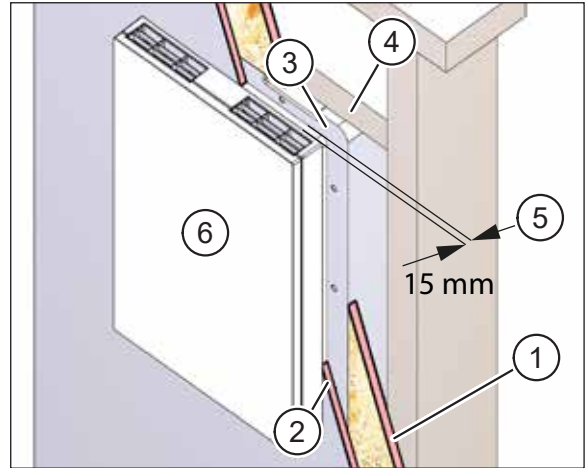
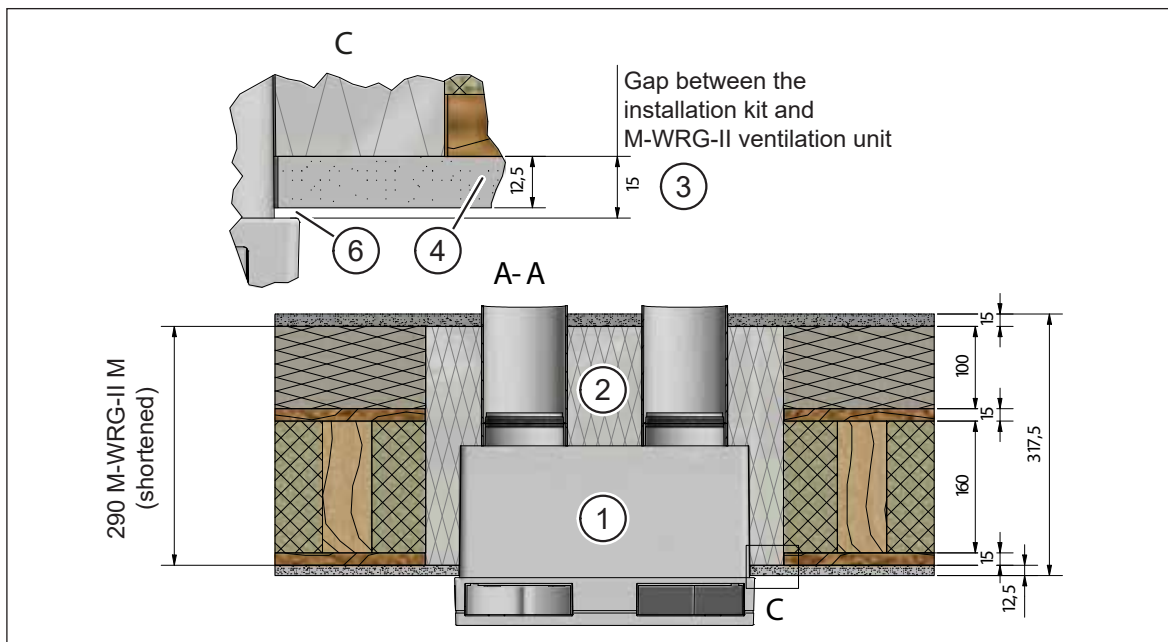

Fig. 21: Depth of plastering trim 15 mm
Fig. 22: Positioning the installation kit in the external wall, dimensions in millimetres
- The internal wall cladding consists of a 15 mm thick OSB board (item 1 in Fig. 21) and a 12.5 mm thick plasterboard (item 2 in Fig. 21).
- The front surface of the wall box (item 3 in Fig. 21) protrudes 15 mm above the two battens (item 4 in Fig. 21). In this case, the OSB board ends flush with the front surface of the wall box.
- The 15 mm gap (item 5 in Fig. 21) between the front surface of the wall box and the ventilation unit housing (item 6 in Fig. 21) is filled by the 12.5 mm thick plasterboard. The remaining 2.5 mm shadow gap can be grouted.
- When it is subsequently installed, the ventilation unit (item 6 in Fig. 21, item 1 in Fig. 22) must be pushed into the wall box (item 3 in Fig. 21, item 2 in Fig. 22) as far as it will go. This is the only way to ensure that condensation cannot develop between the back panel of the ventilation unit and the wall box.
- When the ventilation unit is pushed into the wall box as far as it will go, there remains a 15 mm gap (item 5 in Fig. 21, item 3 in Fig. 22) between the front surface of the wall box and the inserted ventilation unit. This gap is ideally filled by the top layer of the internal wall cladding.
- If the top layer of the internal wall cladding (item 2 in Fig. 21, item 4 in Fig. 22) is less than 15 mm thick, the 15 mm gap (item 5 in Fig. 21, item 3 in Fig. 22) between the front surface of the wall box and the inserted ventilation unit is not completely filled, resulting in a shadow joint (item 6 in Fig. 22). This can be grouted.
- If the top layer of the internal wall cladding (item 2 in Fig. 21, item 4 in Fig. 22) is more than 15 mm thick, the wall box must be shortened and moved forward by the amount in excess of 15 mm in order to enlarge the gap between the ventilation unit and wall box. Alternatively the final layer of the internal wall cladding can be chased out by the amount in excess of 15 mm.